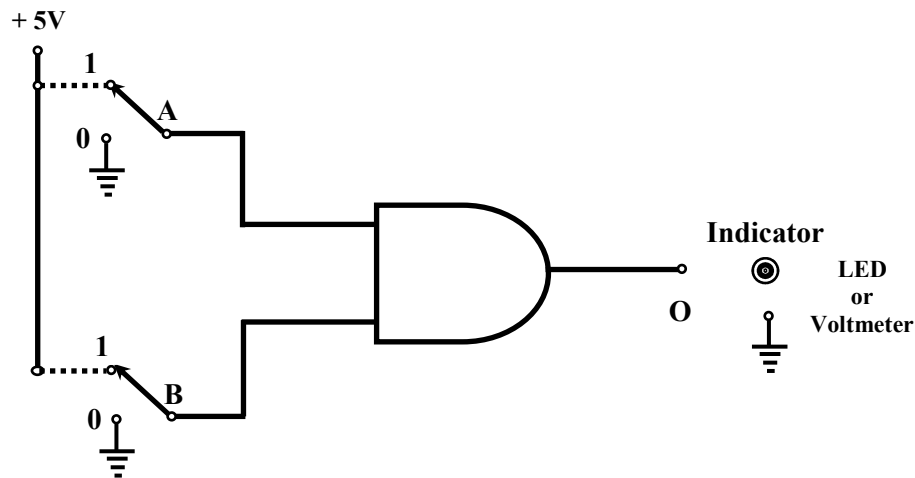

Fig.7 Connection for AND gate
- (i) Connect the circuit of AND gate as shown in fig. 7